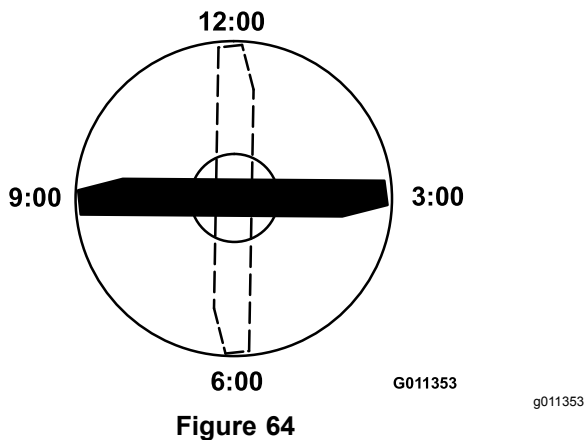

Figure 64
3. Position the cutting edge of the marked end of the blade at the 12 o'clock position (straight ahead in the direction of mowing) and measure the height from the table to the cutting edge of the blade (Figure 64).
4. Rotate the marked end of the blade to the 3 o'clock and 9 o'clock positions and measure the heights (Figure 64).